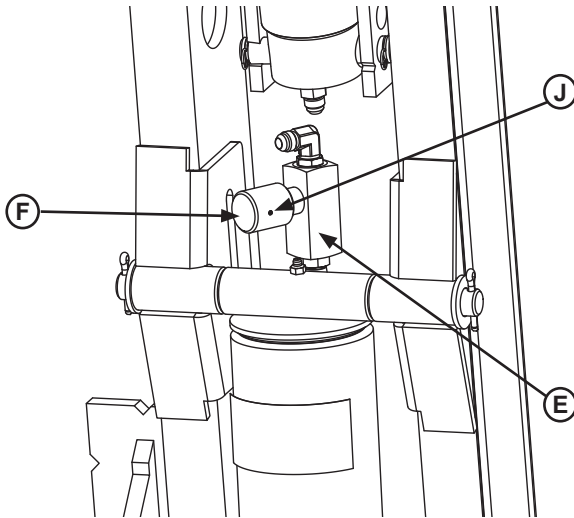

Figure 18
6. Fully open the down speed flow control valve (E) by loosening the set screw (J) and turning knob (F) counter-clockwise (see **Figure 18**). Record the number of turns/original setting, to reset flow rate after purging.
9. Reconnect the hoist cylinder yoke (G) to the base of the embed or carriage by completing the following steps: